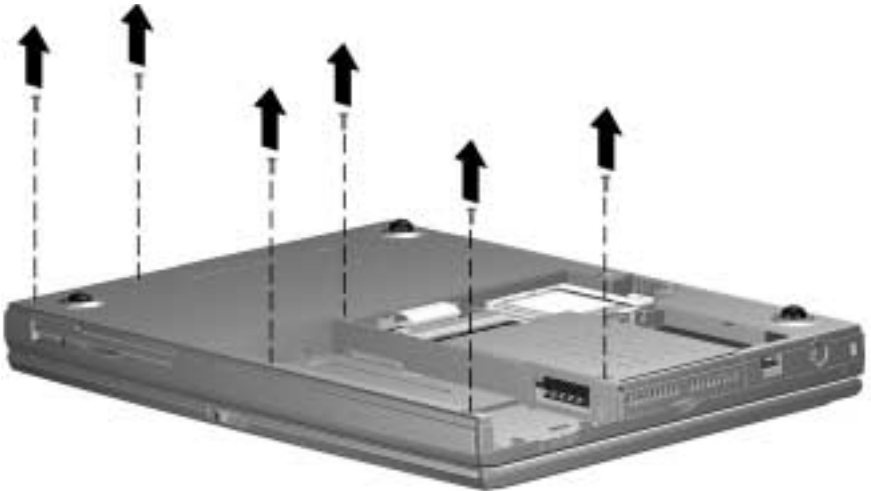

Figure 5-15. Removing the Top Cover Screws
3. Remove the six screws securing the top cover to the base assembly (Figure 5-15).